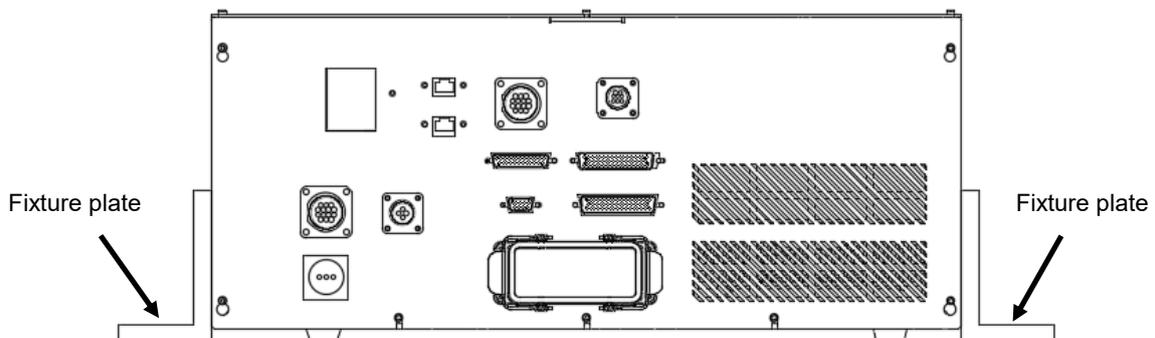

Figure 8.5 Controller installation fixture method
- When fixing the power control box in place, please do as shown in Figure 8.5 below and use 2 L-shaped plates to keep the two sides of the controller tightly together and fixed in place.